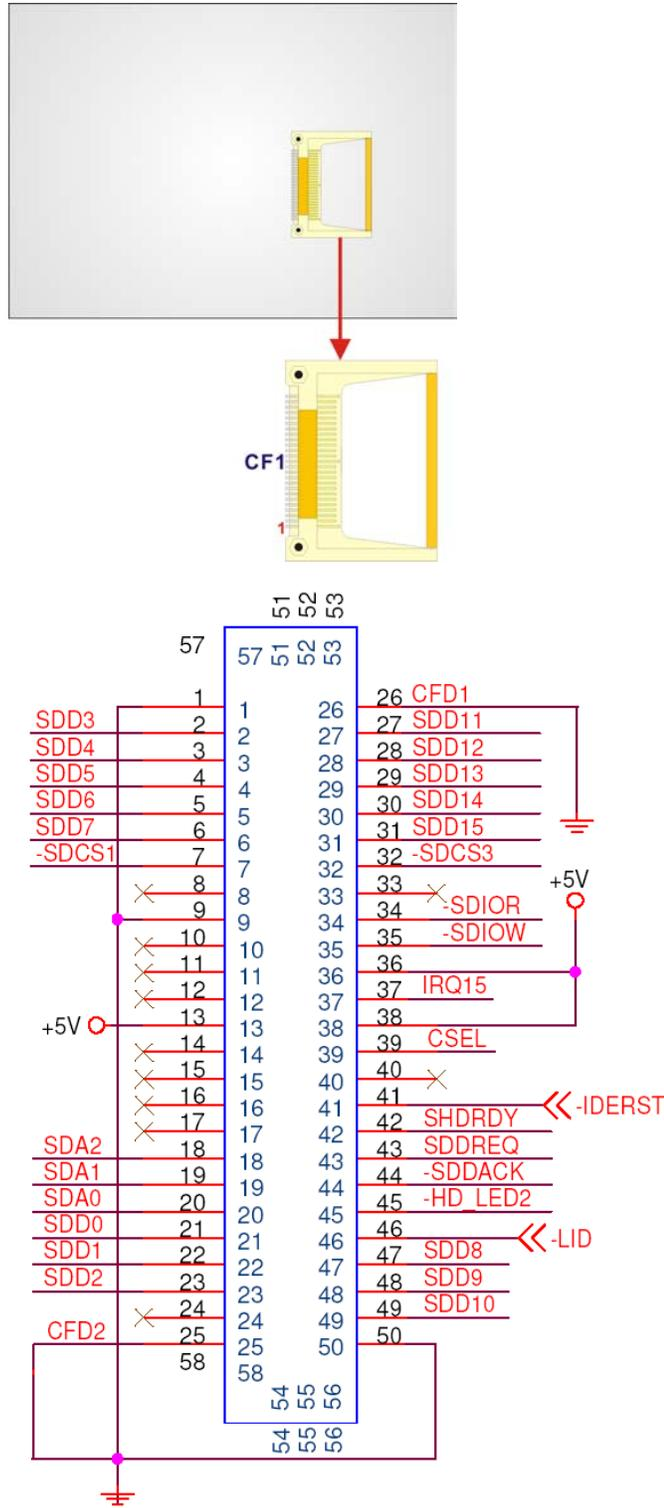

Figure 3-7: CompactFlash Connector Location (Solder Side)
- CN Location:** See **Figure 3-7**